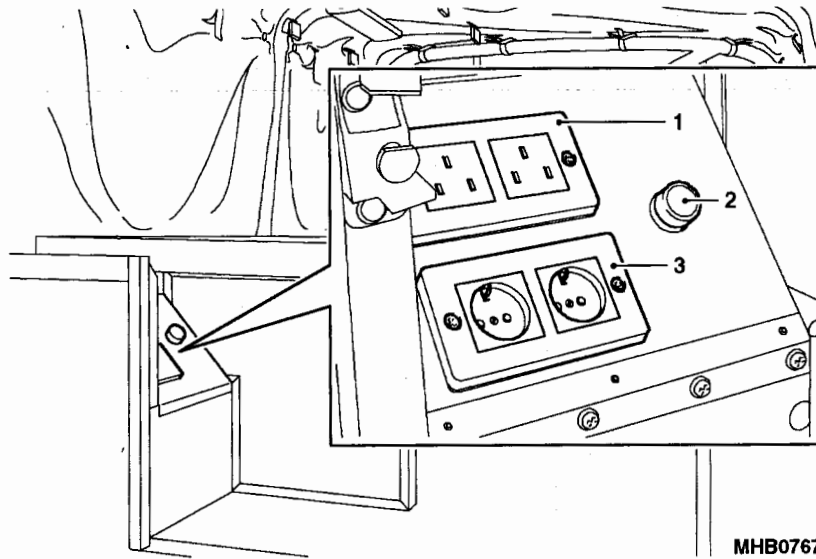

Fig 2 Socket panel
5 The sockets panel (Fig 2) is located at the rear of the vehicle on the left hand side adjacent to the door. It has a cover which is kept in place by a velcro strip. The panel has two pairs of sockets, one pair of standard 240v sockets (1) and one pair of 220v sockets (3). On the panel is also a 12v outlet (2).